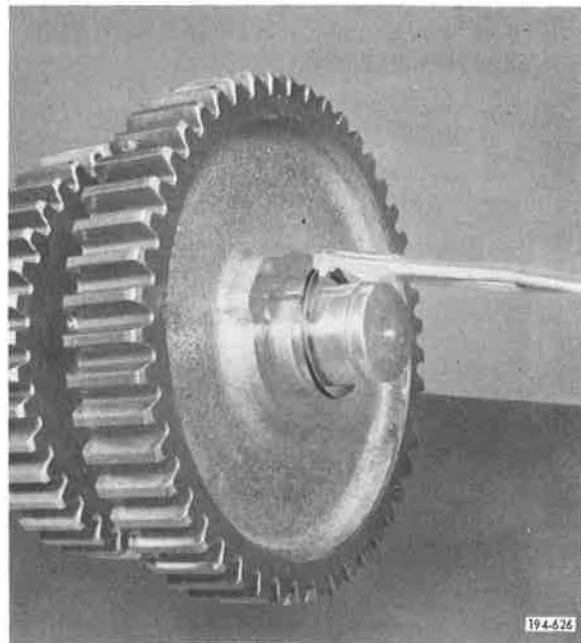

Figure 5-755. Removing Snap Ring
3. Remove front countershaft gear retaining snap ring, using snap ring pliers J-25445 or equivalent. See **Figure 5-755**.